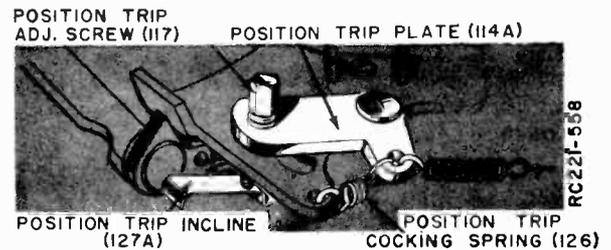

Figure 8. Trip Serration Plate, Showing Position Trip Adjustment.
For 45 RPM operation, a "position" type trip is used. See figure 8. (45 RPM records do not have an eccentric groove.) This type of trip arrangement, trips the changer into change cycle when the pickup arm reaches a given distance from the 45 RPM spindle.
The ideal adjustment of screw (115) for best operation is when the point of the pawl (127B) is horizontally even or level with the smooth side of the trip serration plate (114). NOTE: The point of the pawl should be approximately $\frac{1}{8}$ of an inch from the bottom edge of the lip on the trip serration plate. See figure 8.